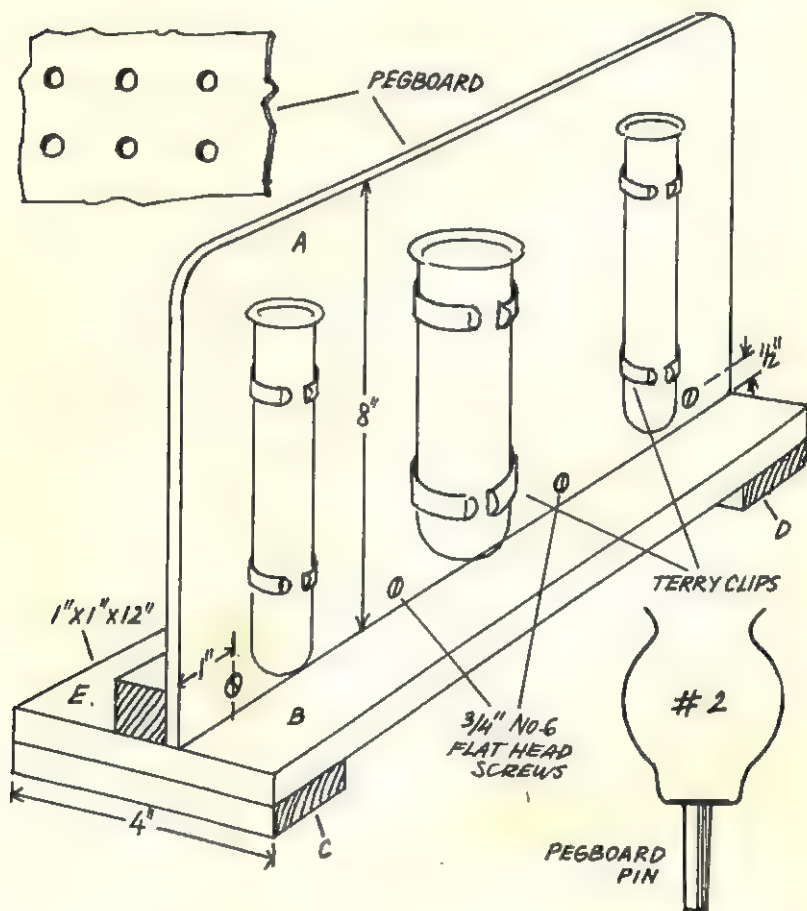

Figure 174
1½-inch No. 8 screws. The cleat (part E) should come next and the pegboard should be screwed to this. The construction is shown in Figure 174. The pegboard (A) should be fastened to the cleat (E) with four flat-head screws (¾-inch No. 6) evenly spaced.